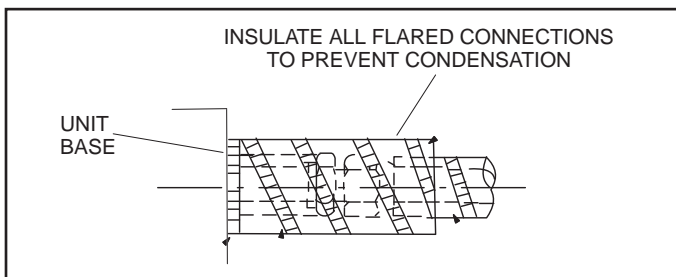

**Figure 6. Tighten Flare Nut**
7. Once snug, continue another half-turn on each nut which should create a leak-free joint. A torque wrench may be used to tighten flare nuts using Table 2 recommendations. See Figure 6. Do not over-tighten a flared joint.
- Immediately align the connector pipe with the identified piping in Figure 34. Hand-tighten the flare nuts at first. Then, use two wrenches to continue to tighten the nuts without twisting the pipes. See Figure 6. Torque requirements are given in Table 2. **Again, do not over-tighten the flared joints.**